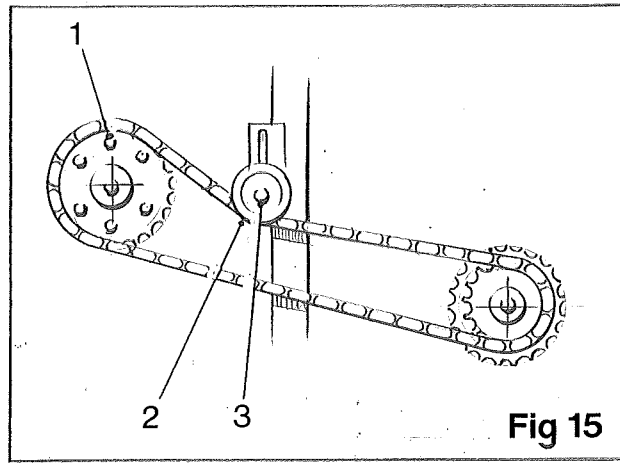

Fig 15
The feed web is chain driven via a slip clutch, which is fitted to prevent serious damage should any blockage occur. The amount of torque required to start the clutch slipping can be varied by turning the nuts (item 1, fig 15). The clutch should be set to just drive without slipping under normal conditions. Over-tightening of the adjustment nuts will render the clutch ineffective. Care should be exercised to ensure all six locknuts are adjusted equally. This is easily achieved by adjusting each nut one flat at a time. The feed web drive is taken from the digger web drive shaft via two sprockets and a drive chain. The chain is tensioned by a roller (item 2, fig 15). To tension the chain, slacken the bolt (item 3, fig 15) and slide the roller as required.